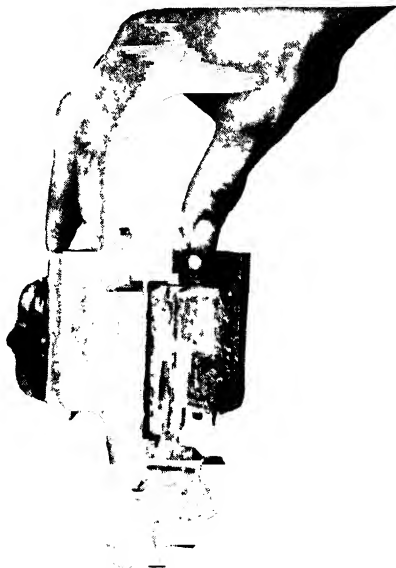

Fig 23 Enclosed Coil, "ON" Type Magnet Valve with Parts Cut Away and with Gauge Cat. 1499733 in Proper Place for Checking Valve Stem Travel
*Measuring Air Gap and Travel.* The air gap and travel of the magnet valve should be periodically measured. Gap gauge, (See Fig. 23 and Fig. 24) is arranged with four measuring gaps and